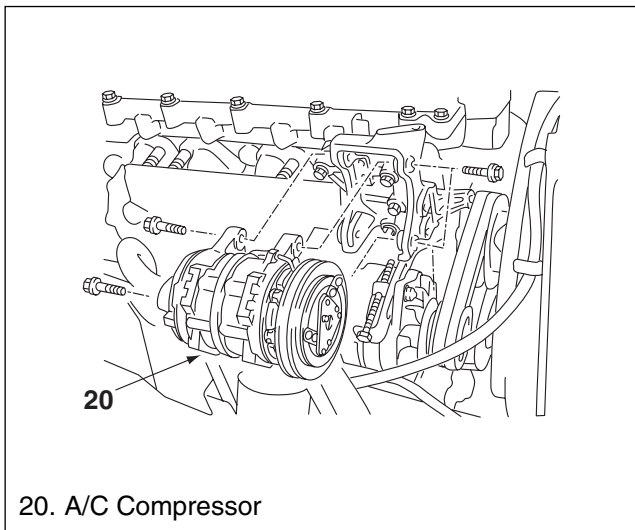

Figure 8. Air Conditioner (A/C) Compressor Removed
21. Generator (18) remove the hoses from the compressor (figure 8).